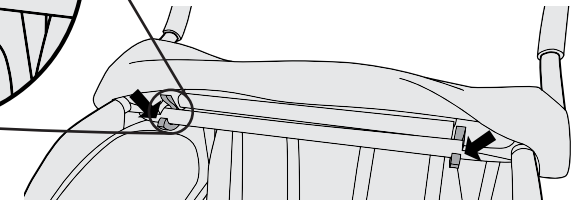

Figure 4
2. From the front of the trailer, lift the cover then press the yellow release latches and pull the rear frame through (Figure 4).